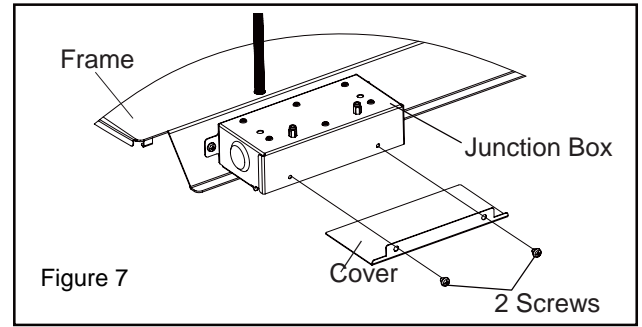

Figure 7
3. Remove the junction box cover (2 screws). Take the power cord and make it get into the box through the strain relief that is provided (see Figure 7).